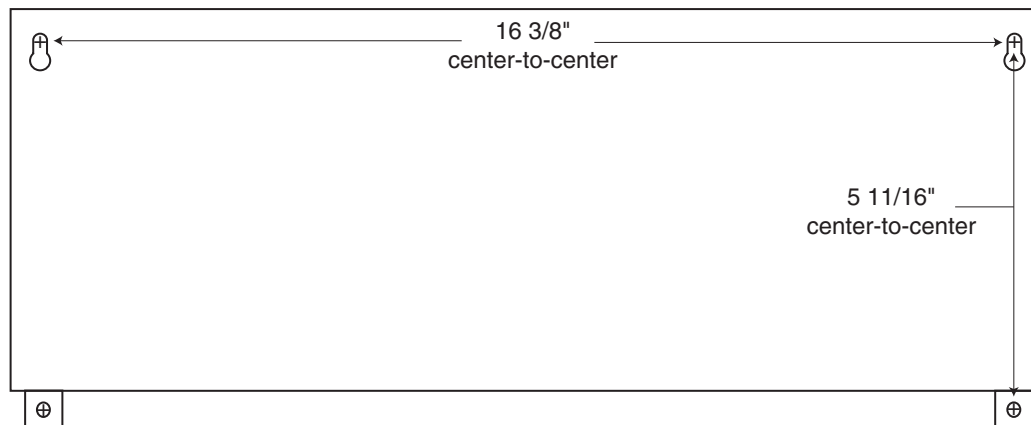

Figure 12. Battery Pack Mounting Dimensions
Figure 12 shows the Battery Pack mounting dimensions.
2. Ensuring a plumb measurement, mark where the pilot holes are to be drilled according to the dimensions given in Figure 12 on page 34.